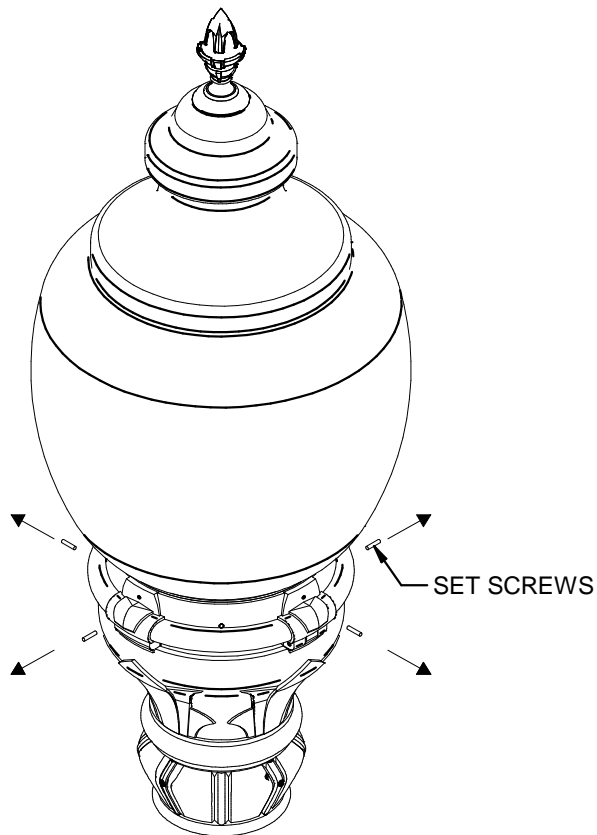

FIG. 1-1
1. REMOVE GLOBE ASSEMBLY BY LOOSEN FOUR SET SCREWS. (FIG. 1-1)